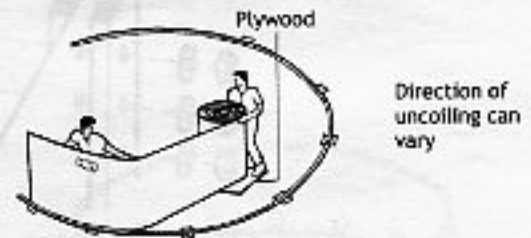

Figure 3.1
- With the help of at least 3 people, uncoil the wall so that the pattern faces the outside making sure the pre-punched slot for the skimmer is at the top. (figure 3.1)